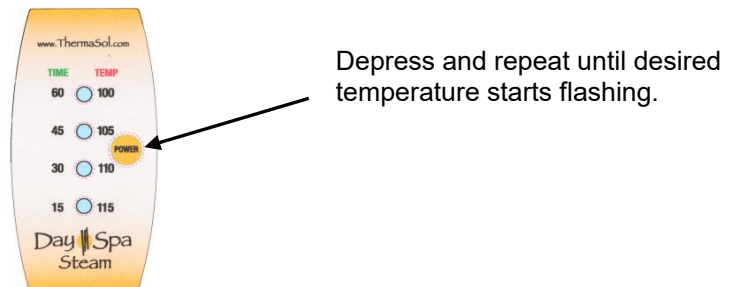

Figure 9
- 3. Changing Session Temperature.** After the time has been selected, the red 100° LED will automatically start flashing. If this is the desired temperature, wait 4 seconds and that temperature will be accepted by the control and the generator will start. If a different temperature is desired, momentarily press the “Control Button”. Repeat until the red LED associated with your desired temperature starts flashing. Once the desired temperature is flashing, wait 4 seconds and that temperature will be accepted by the control and the steam will start. **(Figure 9)**